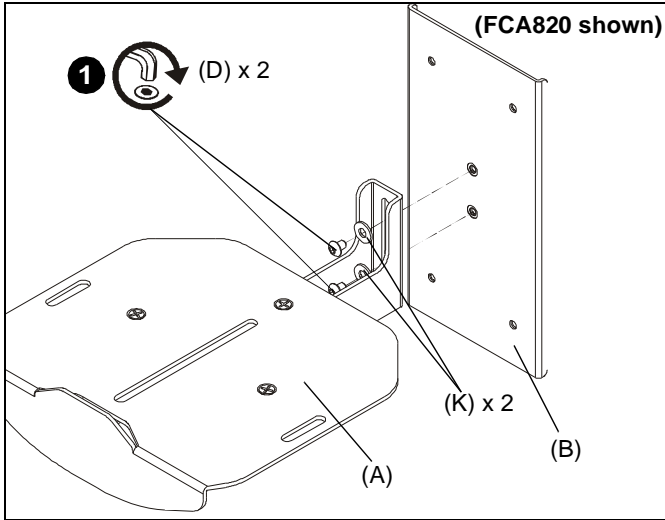

Figure 5
1. Attach FCA820/821 shelf (A) to center plate (B) using two #10-32 x 1/4" button head cap screws (D) and two #10 washers (K). (See Figure 5)